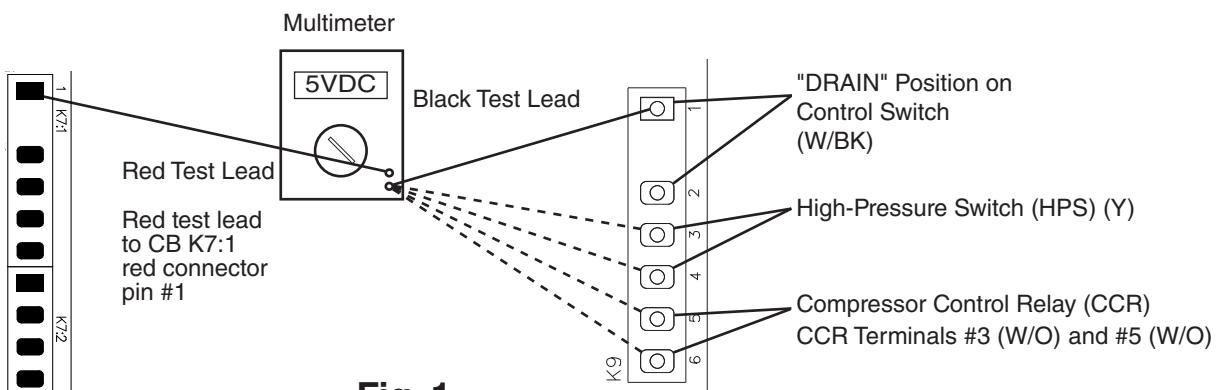

Fig. 1
- b) 2 circuits at CB K8 connector: Bin control (BC) and float switch (FS upper and lower).
(1) **5VDC CB K9 Connector:** See Fig. 1.
(c) **Compressor Control Relay (CCR):** See Fig. 1.